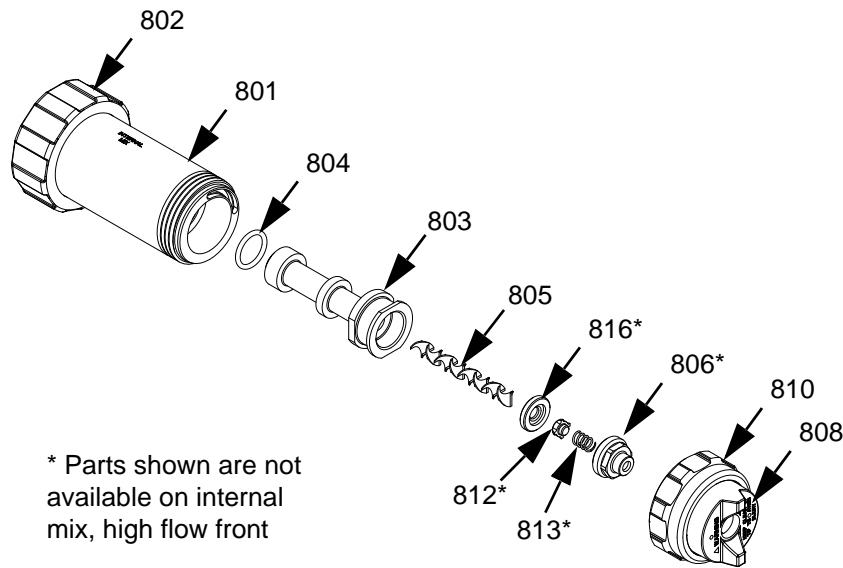

FIG. 17
2. Remove retaining ring (810) and air cap assembly (808) from head (801).
3. Remove diffuser assembly (803).
4. Use two wrenches on flats of diffuser and cap (806) to remove cap. Spring (813) and check valve (812) will fall out when cap is removed.
5. Use a small hex key in the small hole in the back of the diffuser to push the mix element (805) and check valve seat (816) out.
6. Install new mix element into diffuser (803).
7. Install check valve seat (816) into diffuser. See FIG. 17 for seat orientation.